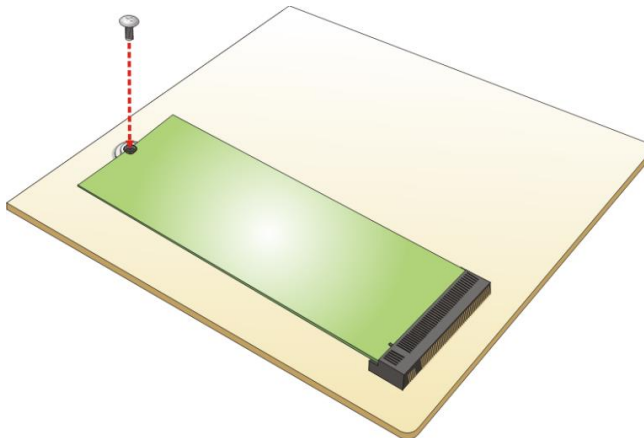

Figure 3-5: Secure the M.2 Module
Step 4: Secure the M.2 module with the previously removed retention screw (**Figure 3-5**).